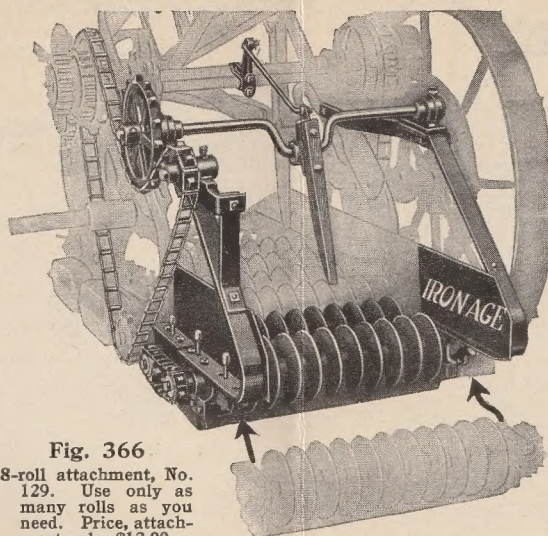

Fig. 366
**Six rolls of discs** are the regular equipment. In light, sandy soils, four or five rolls are enough, and for extreme cases in early digging, eight rolls can be used as shown on the next page (Fig. 366). The rolls are easily taken off and put on when needed. There are 66 discs—front roll has  $4\frac{1}{2}$  inch, balance are  $5\frac{1}{2}$ .
**8-roll attachment.** A third more separating surface but comparatively little additional weight. Helps many growers to do without an elevator. Fig. 366 shows attachment in place and the 6th roll of the regular No. 125 ready to be bolted back of all. You use only as many rolls as you need. Extra tedder provided for heavy vines.